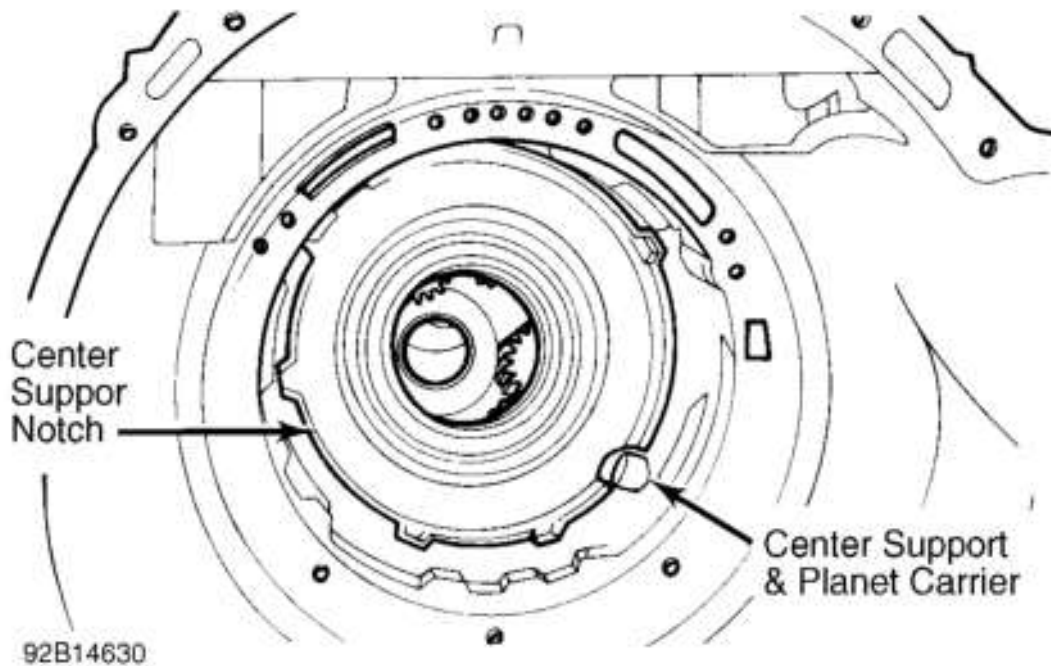

Fig. 47: Aligning Center Support Notch
5. Install center support and planetary assembly into case. See Fig. 47 . If necessary, rotate output shaft to align planet carrier splines with direct clutch hub splines. Install center support anti-clunk spring using a hammer handle or wooden dowel. Spring tabs must face out.
NOTE: Center support and planet carrier cannot be installed unless notch cut in center support is aligned with overdrive band anchor pin. See Fig. 47 .